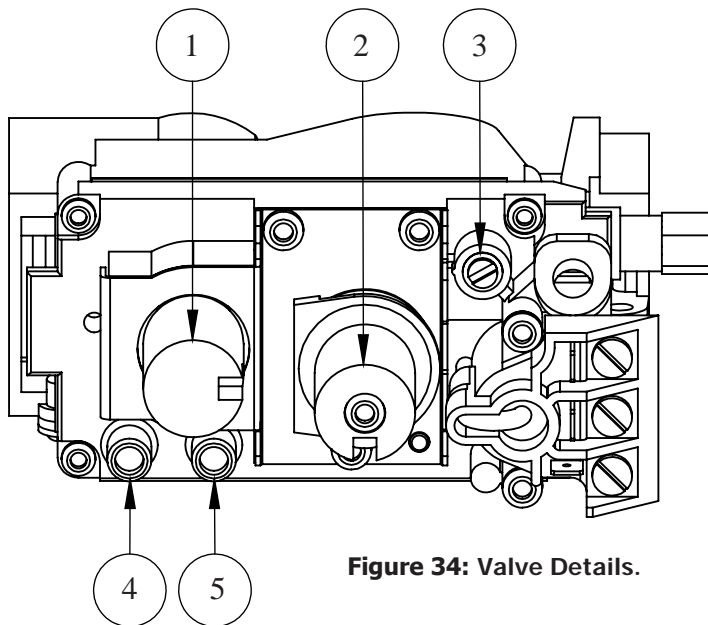

Figure 34: Valve Details.
The pressure taps are located on the front side of the valve (see Figure 34).
1. The adjustment screw can be reached through the front of the unit using a 10 inch long blade head screw driver (see Figure 34 for location on valve).